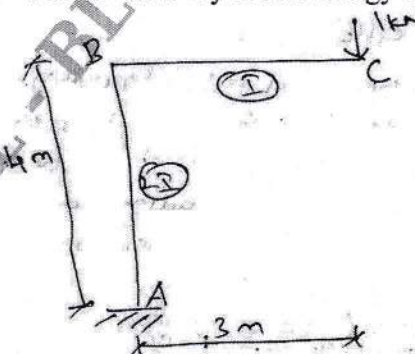

Fig.Q7
- 7 Determine the vertical deflection of point 'C' in the frame shown in Fig.Q7. Given $E = 200 \text{ kN/mm}^2$ and $I = 30 \times 10^6 \text{ mm}^4$ by strain energy method.